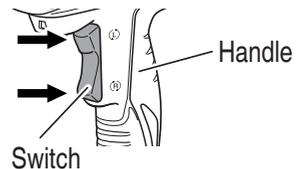

Fig. 6
The switch in this machine functions as a motor switch and rotational direction selector switch. When the switch is set to (R) indicated on the handle, the motor rotates clockwise to tighten the bolt. When the switch is set to (L), the motor rotates counterclockwise to loosen the bolt. When the switch is released, the motor stops. (Fig. 6)